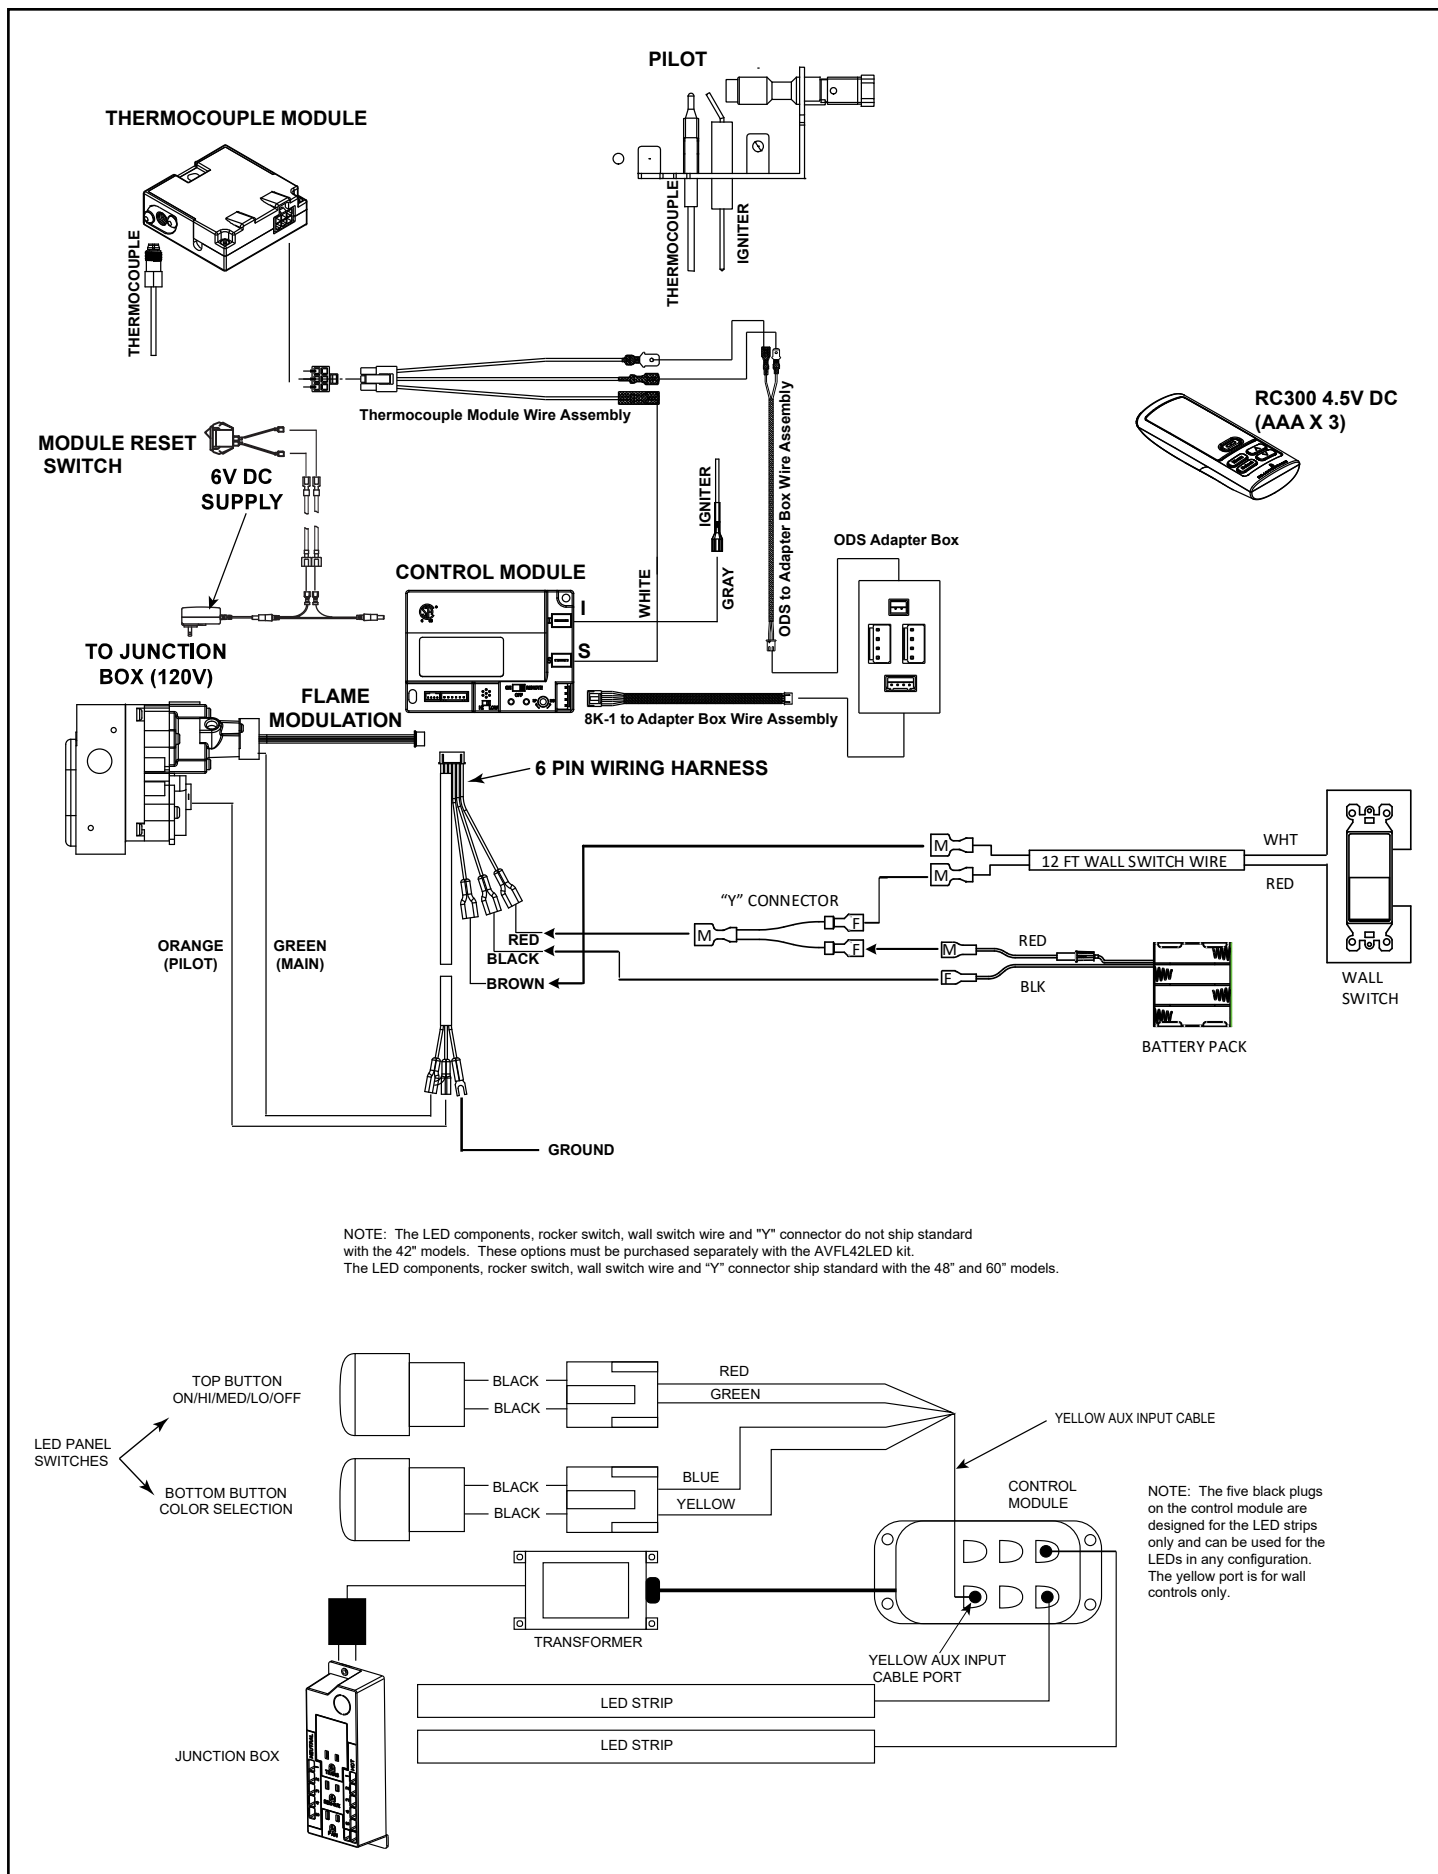

Figure 6.3 - IntelliFire™ Plus ODS Wiring Diagram
- Refer to Figure 6.3, IFP ODS Wiring Diagram.